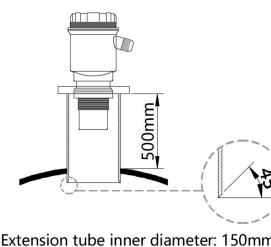

Figure 1
3) If the distance from the probe emitting surface to the highest liquid level is smaller than the blind area of the purchased instrument, an extension tube is required, and the diameter of the extension tube is  $\geq 150\text{mm}$ , length 0.2m-0.5m, vertical installation, smooth inner wall, the hole on the tank body should be larger than the inner diameter of the extension pipe. (Figure 1)